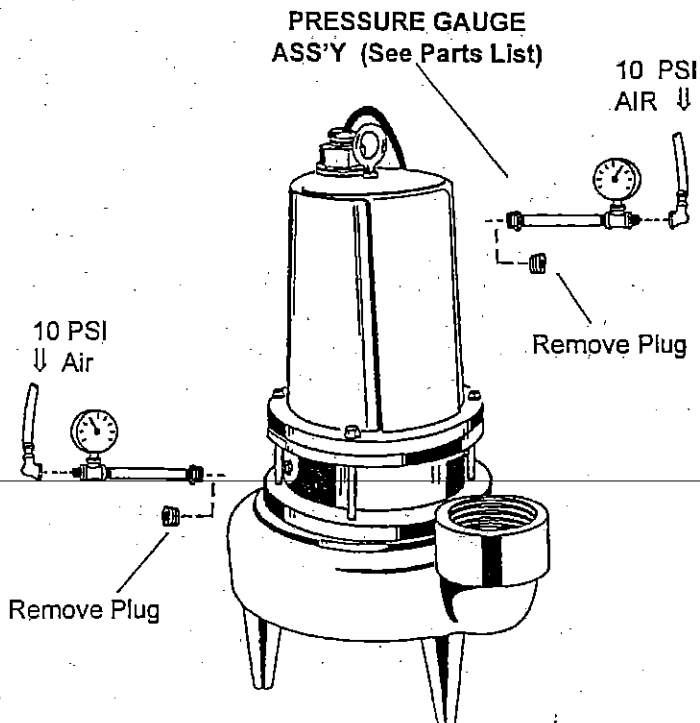

Fig. 2
Motor Housing- Before checking the pump for leaks around the shaft seal, square rings, and cord inlet, the oil level should be full as described in section F-1.3. Remove pipe plug (19) from motor housing (5). Apply pipe sealant to pressure gauge assembly and tighten into hole (see Fig. 2). Pressurize motor housing to 10 P.S.I. Use a soap solution around the sealed areas and inspect joints for "air bubbles".